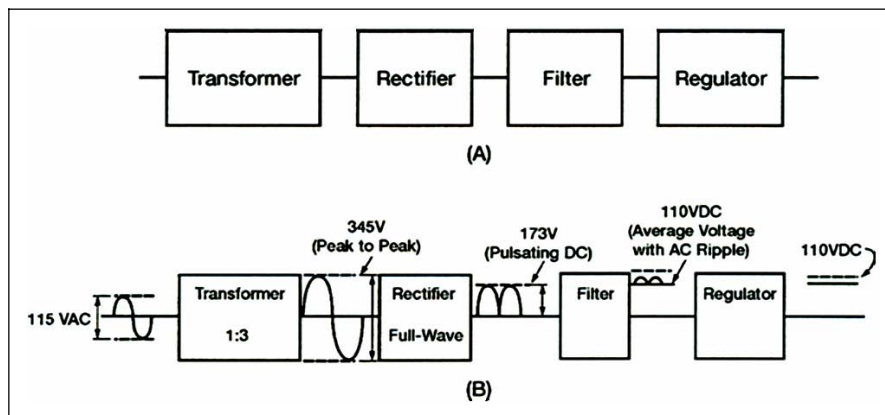

Figure 4-1. Block Diagram of a Basic Power Supply
4-2. Figure 4-1, view (A) shows the block diagram of a basic power supply. Most power supplies are made up of the following four basic sections:
4-3. Figure 4-1, view (B) shows the first section as the TRANSFORMER. The transformer steps up or steps down the input line voltage and isolates the power supply from the power line. The RECTIFIER section converts the AC input signal to a pulsating DC voltage. However, you will see later on in this chapter that the pulsating DC is not desirable. For this reason, a FILTER section is used to convert pulsating DC to a purer, more desirable form of DC voltage. The REGULATOR section does just what the name implies, it maintains the output of the power supply at a constant level in spite of large changes in load current or input line voltages.
4-4. Now that you know what each section does, let us trace an AC signal through the power supply. At this point you need to see how this signal is altered within each section of the power supply. You will see later how these changes take place. In Figure 4-1, view (B), an input signal of 115 volts AC is applied to the primary of the transformer. The transformer is a step-up transformer with a turns ratio of 1:3. You can calculate the output for this transformer by multiplying the input voltage by the ratio of turns in the primary to the ratio of turns in the secondary. Therefore, $115 \text{ volts AC} \times 3 = 345 \text{ volts AC}$ (peak-to-peak) at the output. Since each diode in the rectifier section conducts for 180 degrees of the 360-degree input, the output of the rectifier will be one-half, or approximately 173 volts of pulsating DC. The filter section, a network of resistors, capacitors, or inductors; controls the rise and fall time of the varying signal. Consequently, the signal remains at a more constant DC level. You will see the filter process more clearly in the discussion of the actual filter circuits. The output of the filter is a signal of 110 volts DC, with AC ripple riding on the DC. The reason for the lower voltage (average voltage) will be explained later in the chapter. The regulator maintains its output at a constant 110-volt DC level, which is used by the electronic equipment (more commonly called the load).